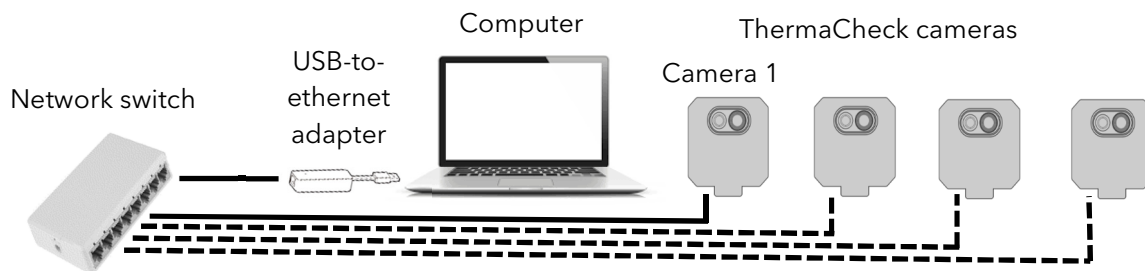

Figure 1: Multi-camera network
The multi-camera network, as illustrated in Figure 1, consists of:
Connect the computer and **one** ThermaCheck camera to the ethernet ports on the switch panel as shown in Figure 1. The provided USB-to-ethernet adapter may be used between the computer and the switch panel ethernet ports. Most routers provide a few ethernet switch ports. A larger number may be obtained by using a switch box.
1. Open the computer's "Settings" ⚙️, choose "Network & Internet" and then select "Ethernet" (Figure1-a). Choose "Change adapter options" (Figure1-b) under related settings.
2. Right-click on the Ethernet (Figure1-c) and select "Properties". *Note: If you are not using the USB-to-ethernet adapter, right-click on the Local Area Connection (instead of Ethernet) and select "Properties".* Double left-click on "Internet Protocol Version (TCP/IPv4)" (Figure1-d).
3. In the pop-up window, select "Use the following IP address" (Figure1-e) and set the IP address to 169.254.1.99 (Figure1-f) and set the Subnet mask to: 255.255.255.0 (Figure1-g).